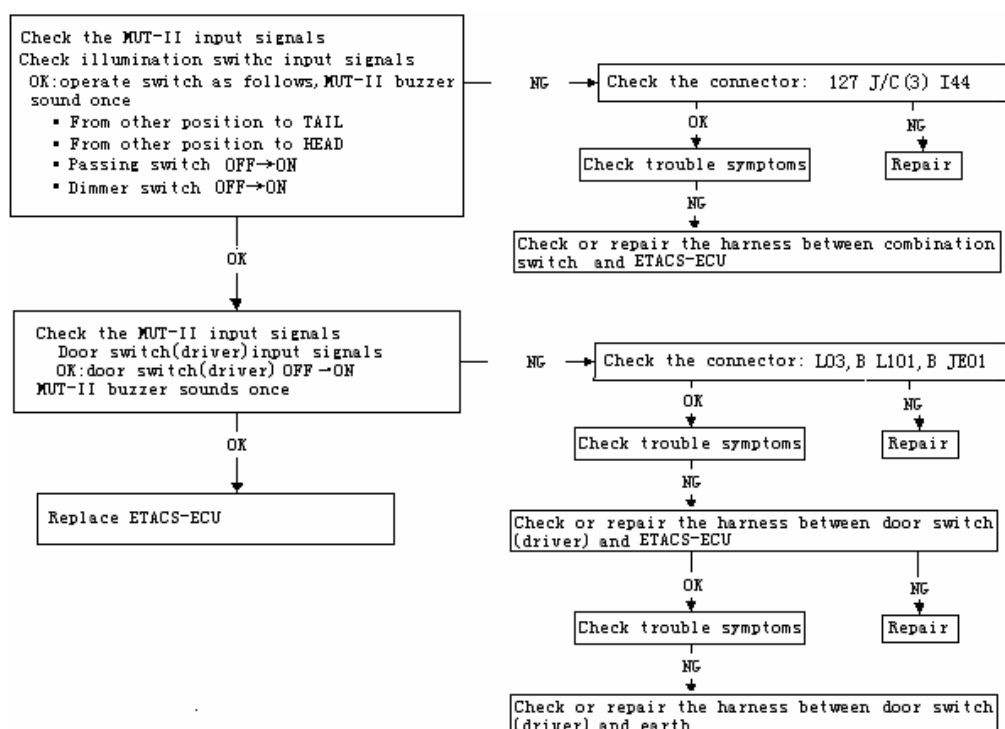

Fig 20-49
(1)Checking procedure No.1 as table20-11 and fig20-49.